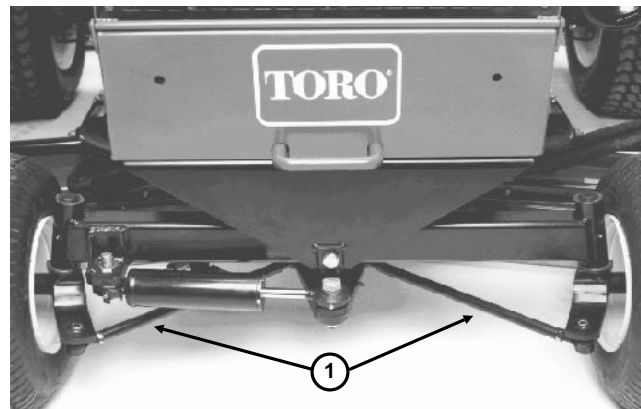

Figure 9
2. Loosen the jam nuts on both tie rods. Adjust both tie rods until center-to-center distance at front of rear wheels is 0 - 1/8 of an inch less than at the rear of the wheels (Fig. 9).
3. When toe-in is correct, tighten jam nuts against tie rods (Fig. 9).